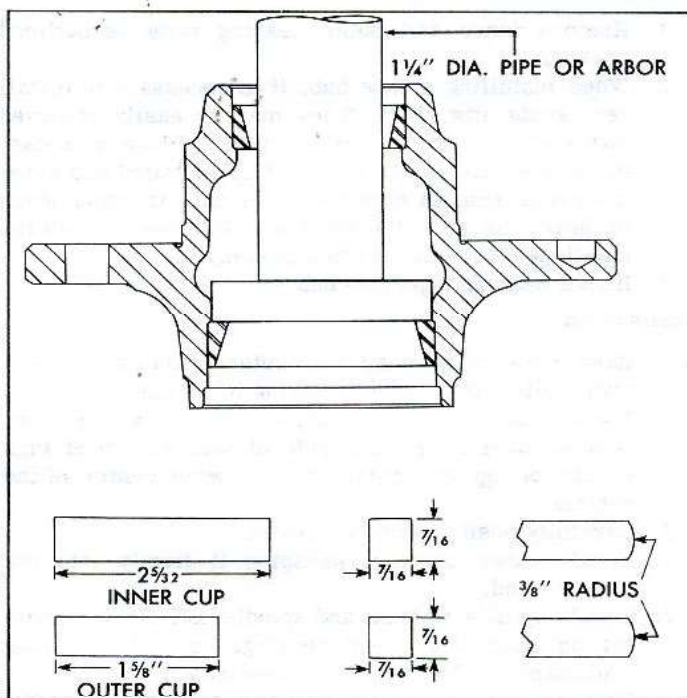

Fig. 3-7—Bearing Cup Removing Tools
1. Using steel bar stock, make press-out tools shown in Figure 3-7.